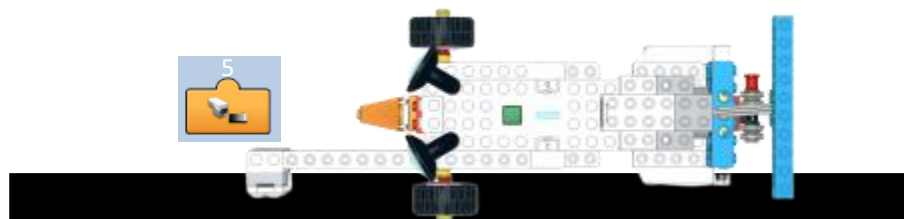

Figure 53: Follow the Line - Take One Measurement
- a. By taking one measurement when the sensor is placed in between the black line and the white background as shown in Figure 53.